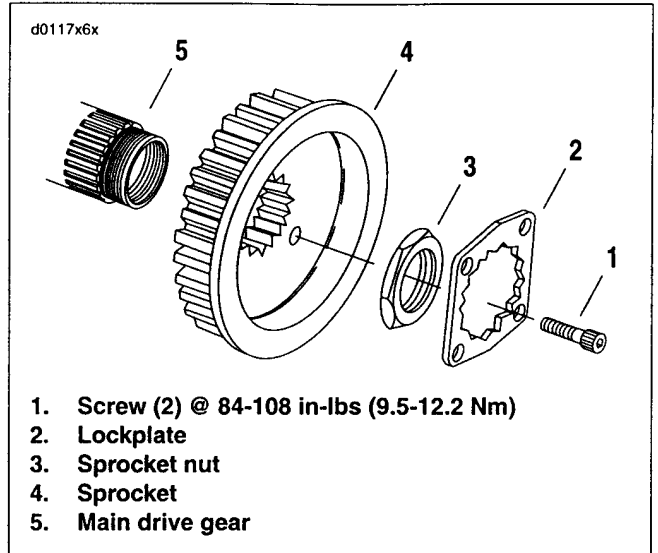

Figure 6-25. Transmission Sprocket
- a. See Figure 6-25. Remove both screws (1) and lockplate (2).
2. See Figure 6-25. Apply LOCTITE THREADLOCKER 262 (red) to sprocket nut (3) threads. Thread the sprocket nut counterclockwise onto main drive gear, with flanged side facing transmission sprocket.